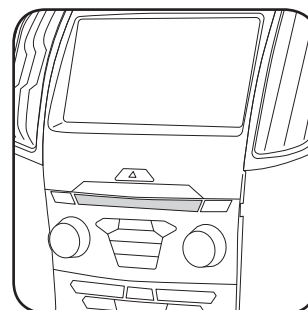

Fig. 3.9
9. Install the CD slot cover provided with the EDG3. (Fig. 3.9)